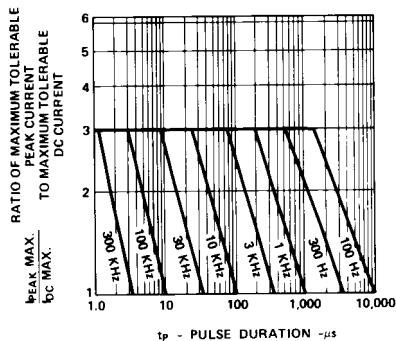

Figure 5. Maximum Tolerable Peak Current vs. Pulse Duration. (I_{DC} MAX as per MAX Ratings).
- See Figure 5 (Red), 10 (Yellow), or 15 (Green) to establish pulsed operating conditions.